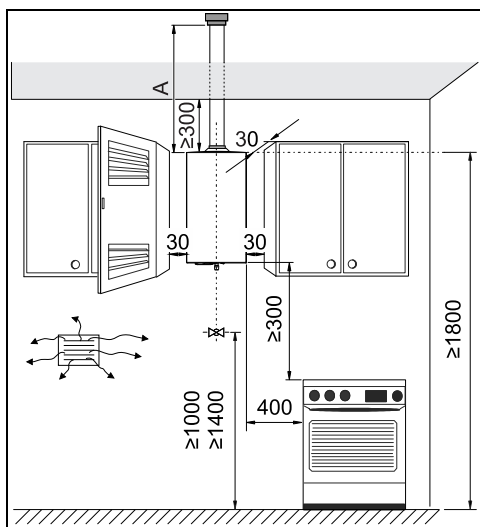

Fig. 4 Minimum clearances (in mm)
- Install the appliance in accordance with the minimum installation clearances indicated in Fig. 4.